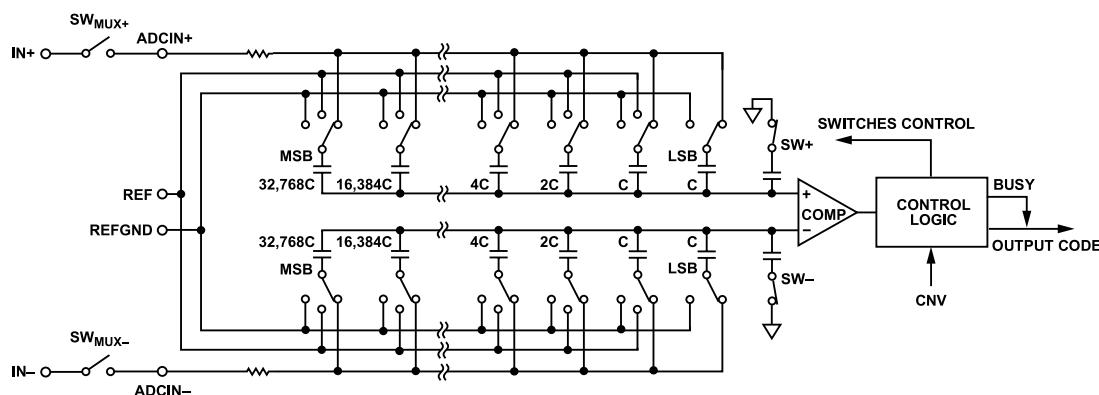
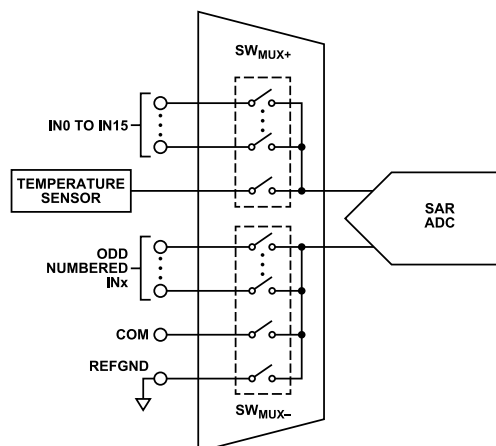
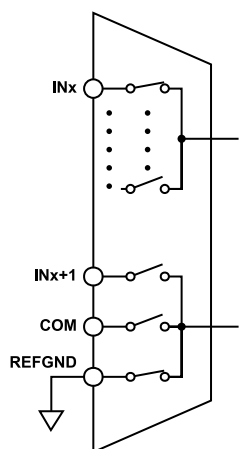

Figure 64. ADC Simplified Schematic
Figure 68. Multiplexer Simplified Schematic
Figure 69. INx Paired with REFGND
The AD4695/AD4696 contain an SAR-based ADC core that utilizes a charge redistribution digital-to-analog-converter (DAC) to quantize the applied input voltage to an output code. Figure 64 shows a simplified schematic of the AD4695/AD4696 SAR ADC core.
The analog inputs and the temperature sensor are connected to the capacitor array inputs (ADCIN+ and ADCIN-) via the internal low crosstalk multiplexer, represented by SW_{MUX+} and SW_{MUX-} in Figure 64. The multiplexer switches are controlled by the internal channel sequencing logic and are updated once per conversion (see the Multiplexer section and the Channel Sequencing Modes section).
A low crosstalk analog multiplexer routes the signals from the analog input pins to the ADC core inputs. The impedance of the analog inputs is modeled as the parallel combination of the pin capacitance (C_{PIN}) and the network formed by the series connection of R_{IN} and C_{DAC} . R_{IN} represents the ADC input series resistance and the multiplexer switch resistance and is typically 240 Ω . C_{DAC} represents the ADC sampling capacitive DAC shown in Figure 64, and is typically 60 pF.
The AD4695/AD4696 contain a flexible, low crosstalk analog multiplexer for selecting from the 16 analog inputs and internal temperature sensor and routing them to the inputs of the 16-bit, pseudo differential SAR ADC core. Figure 68 shows a simplified schematic of the internal multiplexer. The SW_{MUX+} and SW_{MUX-} switches shown in Figure 64 and Figure 68 represent the multiplexer switches that route the selected channel to the ADC inputs (labeled ADCIN+ and ADCIN- in Figure 64). SW_{MUX+} and SW_{MUX-} are break-before-make and are controlled by the internal channel sequencing logic (see the Channel Sequencing Modes section).
The multiplexer allows flexible analog input channel configuration. The SW_{MUX-} position is user programmable, and can be assigned to any of the pins shown in Figure 68 (see the Channel Configuration Options section).
The channel configuration settings include pin pairing assignments and signal polarity modes. The pin pairing options assign the position of SW_{MUX-} for each position of SW_{MUX+} and determine which signal is routed to the negative side of the SAR ADC core (ADCIN- in Figure 64). The signal polarity modes configure the ADCIN- voltage range. Figure 69 shows the pin pairing and voltage ranges for the different channel configuration options.
- Figure 69, IN0 to IN15 paired with REFGND
When the temperature sensor is selected, the multiplexer SW_{MUX+} switch (see Figure 68) selects the temperature sensor output and its SW_{MUX-} switch selects REFGND, and the SAR ADC core samples V_{TEMP} to generate a corresponding output code. The analog-to-digital conversion of the temperature sensor output utilizes the same transfer function as an analog input configured in unipolar mode with $\text{OSR} = 1$ (see the Transfer Function section).